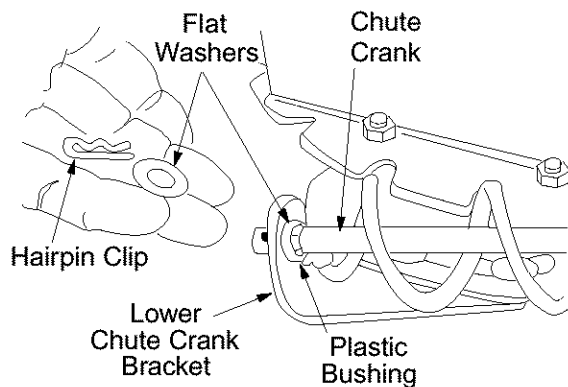

Figure 10
4. Place one flat washer on the end of the chute crank, then insert the end of the crank into the hole in the plastic bushing in the chute crank bracket. See Figure 10. Place another flat washer on the end of the chute crank, and insert hairpin clip into hole in the end of crank.